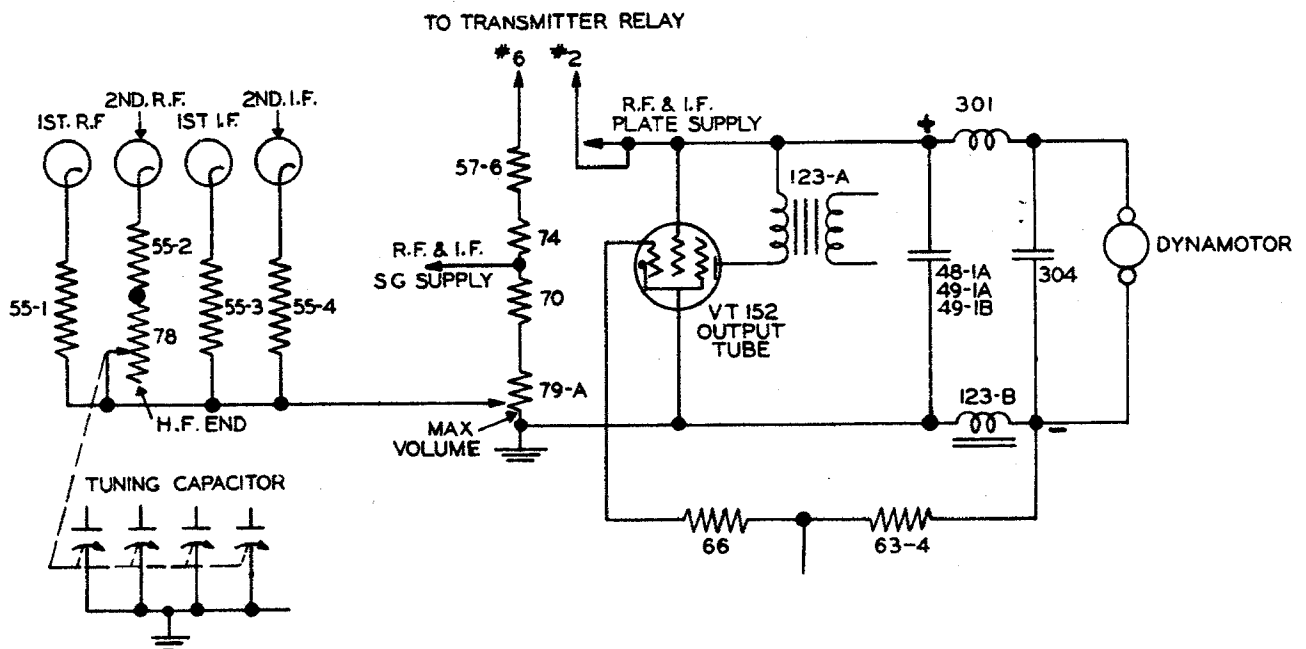

Figure 4-4. Load Compensator and Bleeder Circuit, Simplified Diagram
control with switch 129 in the MVC position, the potentiometer 79-A becomes the active control operating on the cathode bias of the r-f and the first and second i-f amplifier tubes. These potentiometers have two linear resistance tapers providing a smooth variation of sensitivity. Automatic load compensation is obtained by the method of biasing the output tube. Here, the grid bias is obtained from the resistance drop across the dynamotor filter reactor; thus, any tendency towards a decreasing load on the dynamotor results in a slight decrease in the bias of the output tube with a compensating increase in the load current. (See Figure 4-4.) Tube JAN-6K6 provides more power than necessary to operate a number of headsets in parallel.
(2) The characteristic increase of internal receiver noise, when tuning from the low to the high frequency end of a band, has been corrected by means of the variable resistor 78. The function of this potentiometer can be more clearly understood by reference to Figure 4-4. Here the noise compensator resistor 78 is mechanically connected to the shaft of the ganged tuning capacitor with an electrical connection to give minimum resistance at the low frequency end of the band. The cathode return lead of the second r-f amplifier tube connects to the noise compensator resistor 78. The gain of this stage is thereby decreased proportionally as the r-f tuned circuit impedance increases (when tuning toward the